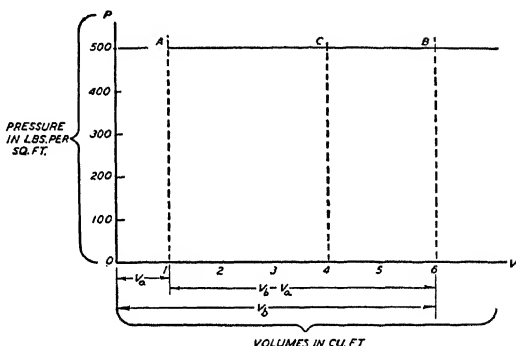

Fig. 13
Pressure-Volume, or PV-Diagram. The co-ordinate axes of mathematics permit one to graphically portray as a point a thermodynamic state of a gas by means of any two characteristics of the gas. The two characteristics often used are the pressure, P and the volume, V . The vertical or Y axis of mathematics is taken as the pressure or P axis and the horizontal, or X axis is taken as the volume, or V axis. Suppose at a given state the pressure of a gas is 500 pounds per square foot and the volume is 1 cubic foot. To show this state on the PV -diagram, Fig. 13, proceed upward on P axis from origin, O to the pressure 500 pounds per square foot. Through this point draw a dotted horizontal line as shown. Next proceed from O to the right on the V axis until the volume 1 cubic foot, is located. Through this point draw a dotted vertical line. The intersection of the two lines at A graphically represents the given thermodynamic state.
From geometry, the area of a rectangle is equal to the product of its two dimensions. In Fig. 13, $A, B, 6, 1$ is a rectangle whose base dimension is $V_b - V_a$ and whose altitude is P . Therefore its area
For a discussion of the PV -diagram in general, a constant pressure expansion was chosen as given in Fig. 13. Referring to this figure and to formula (44), it is evident that, for this process,
Applying this formula to the expansion shown in Fig. 13, where we have V_1 or $V_a = 1$ cubic foot, V_2 or $V_b = 6$ cubic feet, $P = 500$ pounds per square foot absolute, $J = 778$